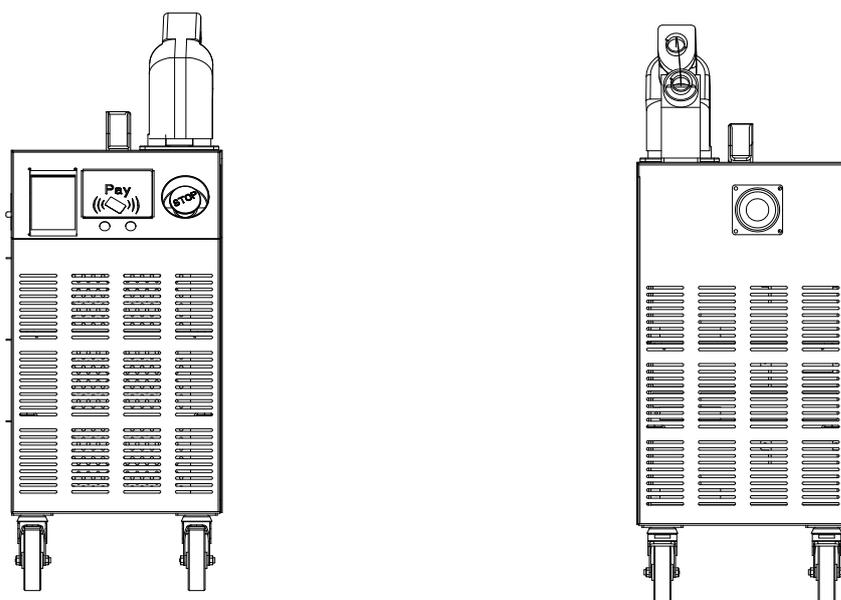

Figure 6-1
- 8)Please notice that the air duct can not toward to ground or be blocked.As the figure 6-1 for reference.